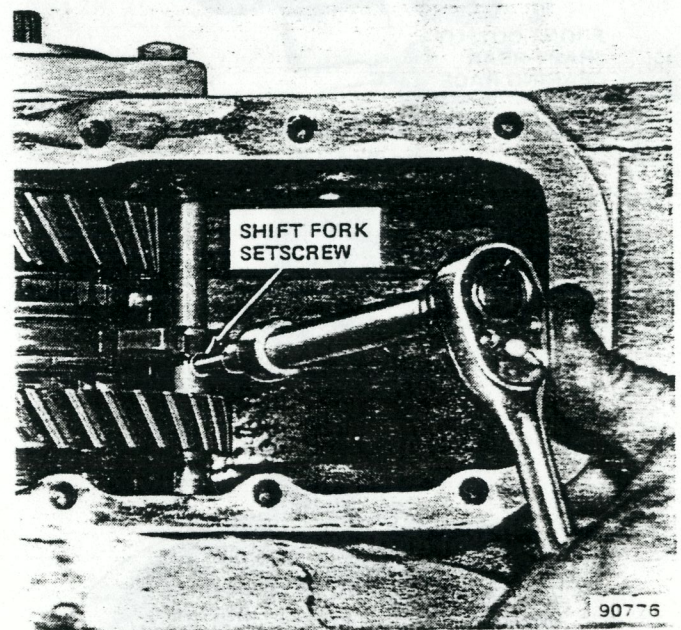

Fig. 2D-78 Shift Fork Setscrew Removal/Installation
- (12) Remove intermediate shaft. Tap shaft out of case using brass punch and plastic mallet.
- (13) Remove and discard intermediate shaft O-ring seal.
- (14) Remove intermediate gear assembly and thrust washers.
- (15) Remove needle bearings and bearing spacers from intermediate gear.
- (16) Remove rear bearing cap attaching bolts and remove cap. Use plastic mallet to tap on output shaft to aid cap removal.
- (17) Remove end play shims and speedometer drive gear from rear output shaft (fig. 2D-76).
- (18) Remove and discard rear output shaft oil seal. Remove bearings and bearing races from rear bearing cap.
- (19) Remove setscrews retaining front and rear output shaft shift forks on shift rods (fig. 2D-78).
- (20) Remove shift rods. Insert punch through clevis pin holes in rods and rotate rods while pulling them out of case.
- (21) Remove shift forks from case.
- (22) Remove bolts attaching front cap-to-case and remove front cap.
(23) Remove front output shaft and shift rod oil seals from front cap (fig. 2D-76). Discard seals.
(24) Remove front bearing race from front bearing cap using Tool J-29168.